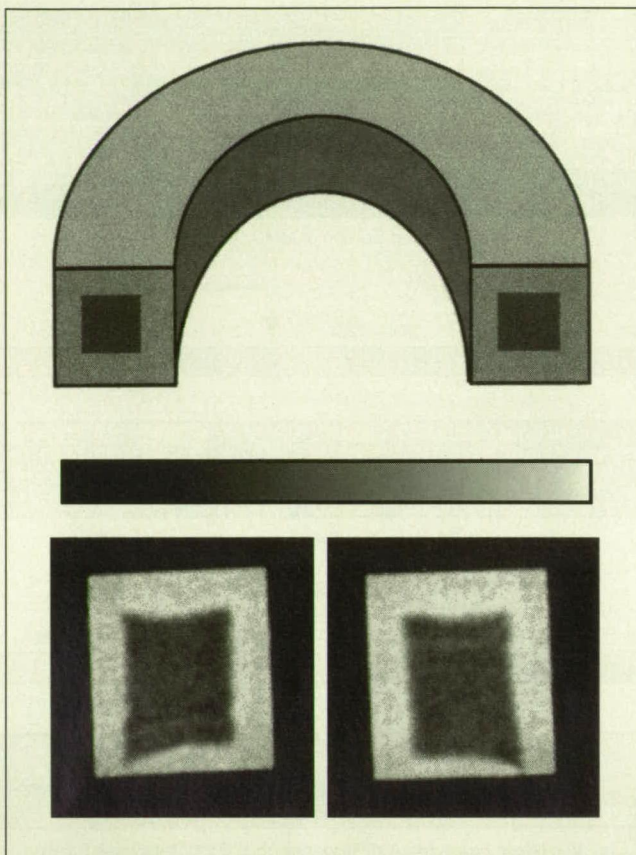

Figure 2. Two Cross-Sectional CT Images of a Composite Ring show imperfections of the Ti-matrix/SiC-fiber core and the Ti cladding.
The second case study involved a ring comprising (1) a core made of a composite of SiC fibers in a Ti matrix surrounded by (2) Ti cladding and including (3) a damaged area near the outer part of the core. CT cross-sectional images of the ring (see Figure 2) revealed that the core was not uniformly shaped or positioned within the cladding. Several CT cross-sectional images, including the ones in Figure 2, include a bright line across the core that was later determined to represent overlapping of a titanium foil. Vari-